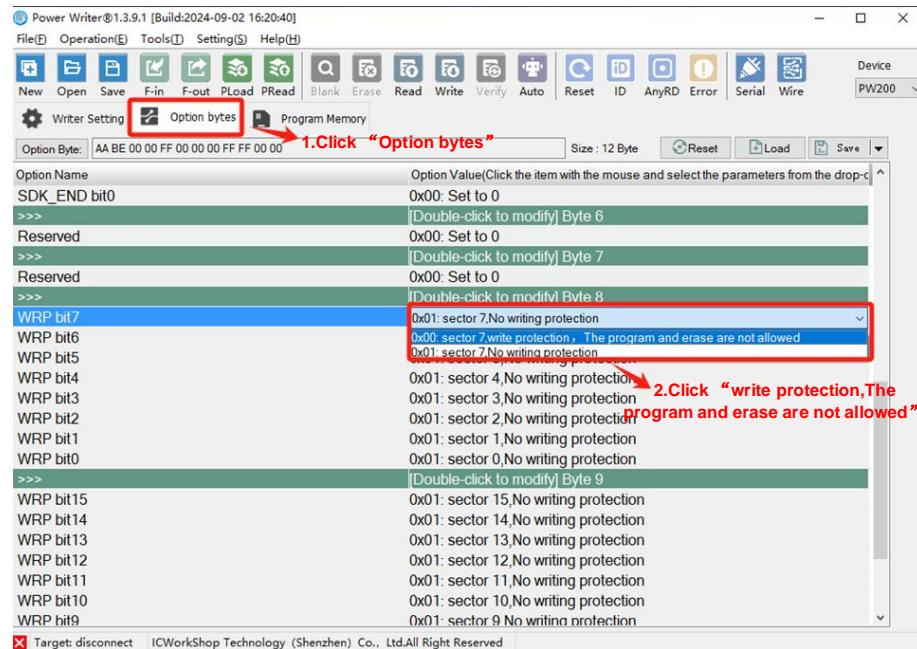
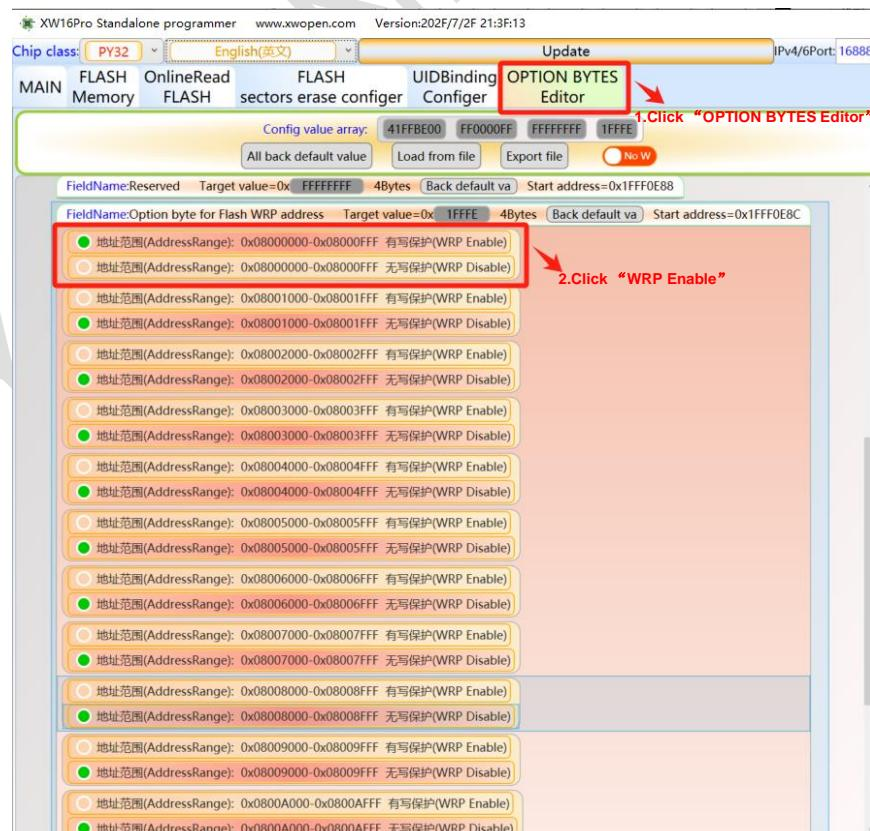

Figure 16-1 Power Write Operation Option Write Protection
Figure 16-2 XW operation Option write protection
- It is recommended that the customer program enables write protection, which is set in Option, as shown in Figure 16-1 and Figure 16-2.